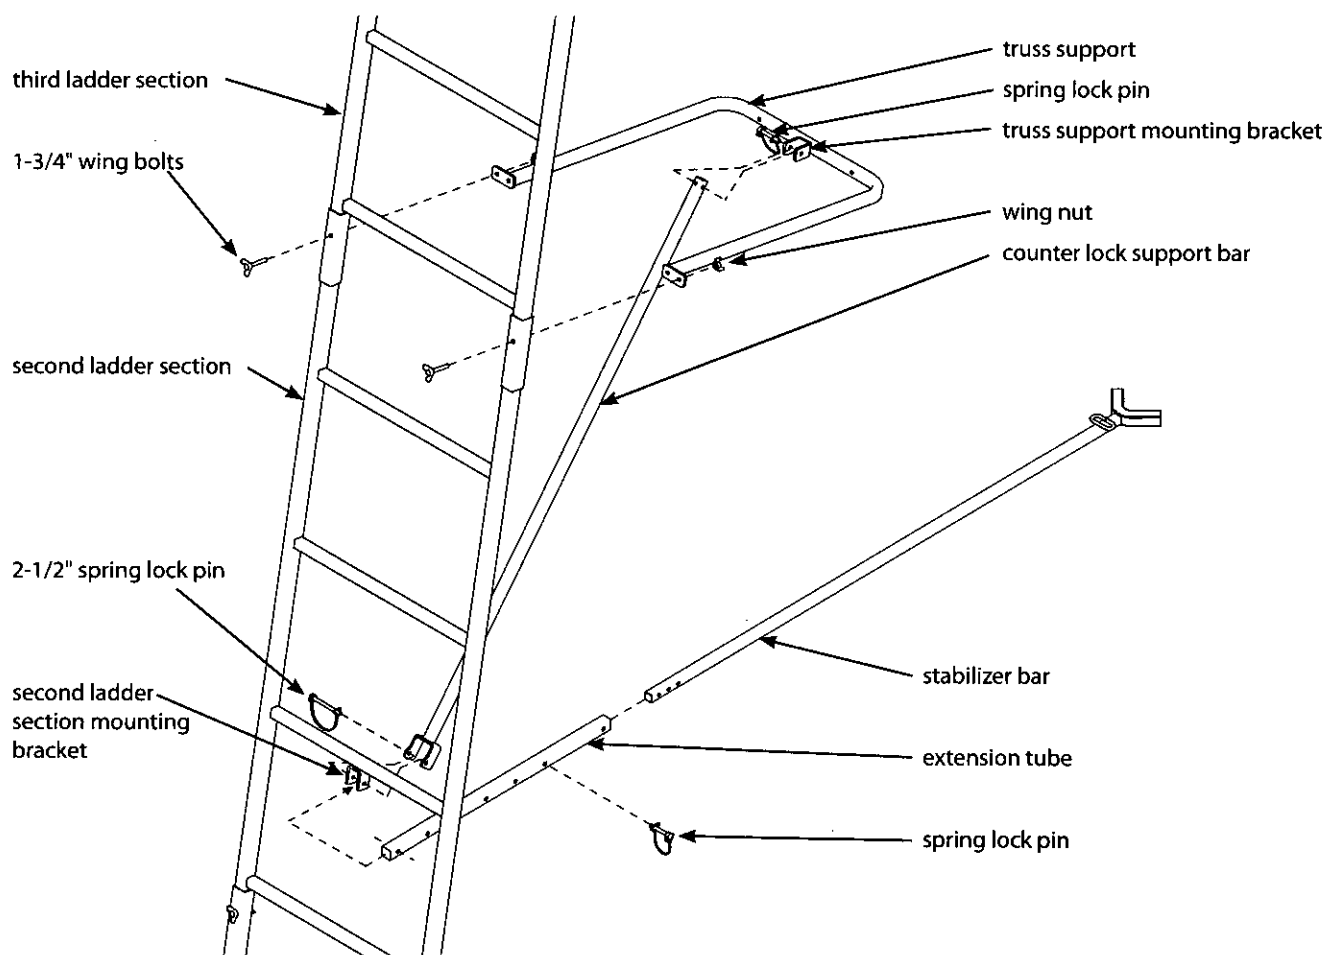

Figure 4
8. Attach the truss support (48023) to where the second and third ladder sections have been slid together, using (2) provided 1/4-20 x 1-3/4" wing bolts and wing nuts. **SEE FIGURE 4.**
9. a. Attach the counter lock support bar (48025) to the truss support mounting bracket using (1) provided 1-3/4" spring lock pin. **SEE FIGURE 4.**
b. Attach the opposite end of counter lock support bar and the stabilizer bar extension tube (1ML23) to the second ladder section mounting bracket using (1) provided 2-1/2" spring lock pin. **SEE FIGURE 4.**
c. Slide the stabilizer bar (L17) into the extension tube and attach the two pieces together using (1) provided 1-3/4" spring lock pin. Spring lock pin must go through both the extension tube and the stabilizer bar at appropriate hole to achieve desired distance from tree. Adjustment in length may be needed when ladder is uprighted later in instructions. **SEE FIGURE 4.**